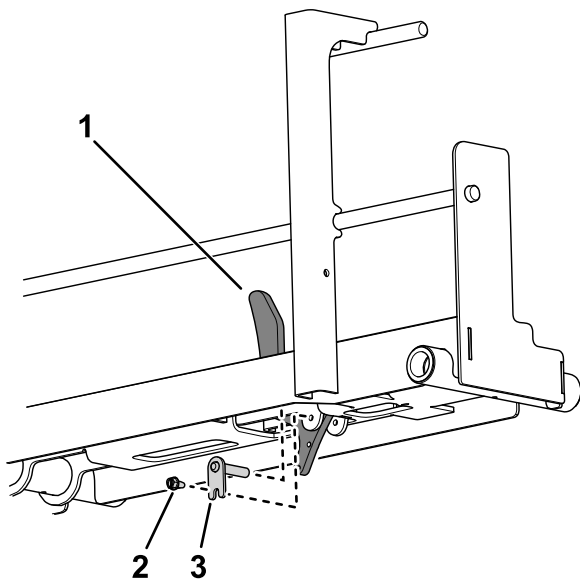

Figure 12
4. Use a flag pin and a hex-head screw to secure the wheel stop to the ramp assembly (Figure 12).